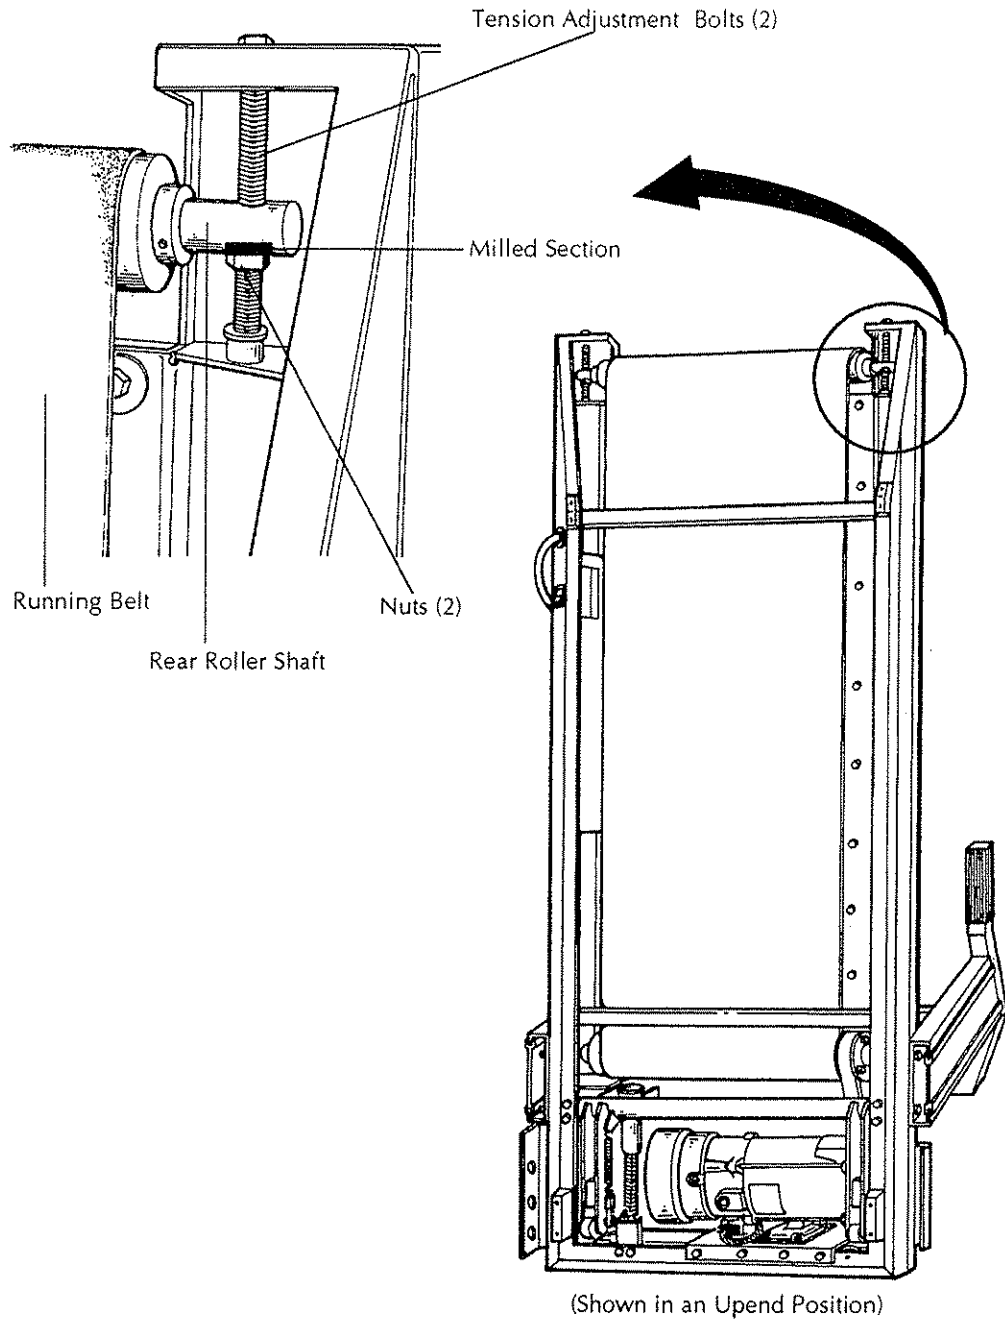

Figure 5-12: Replacing the Rear Roller
2. Lift the rear of the treadmill and stand it on its front end. The display console should be resting on the floor in this position. See Figure 5-12.
3. Remove the rear roller assembly. Refer to Figure 5-12 and complete the following: